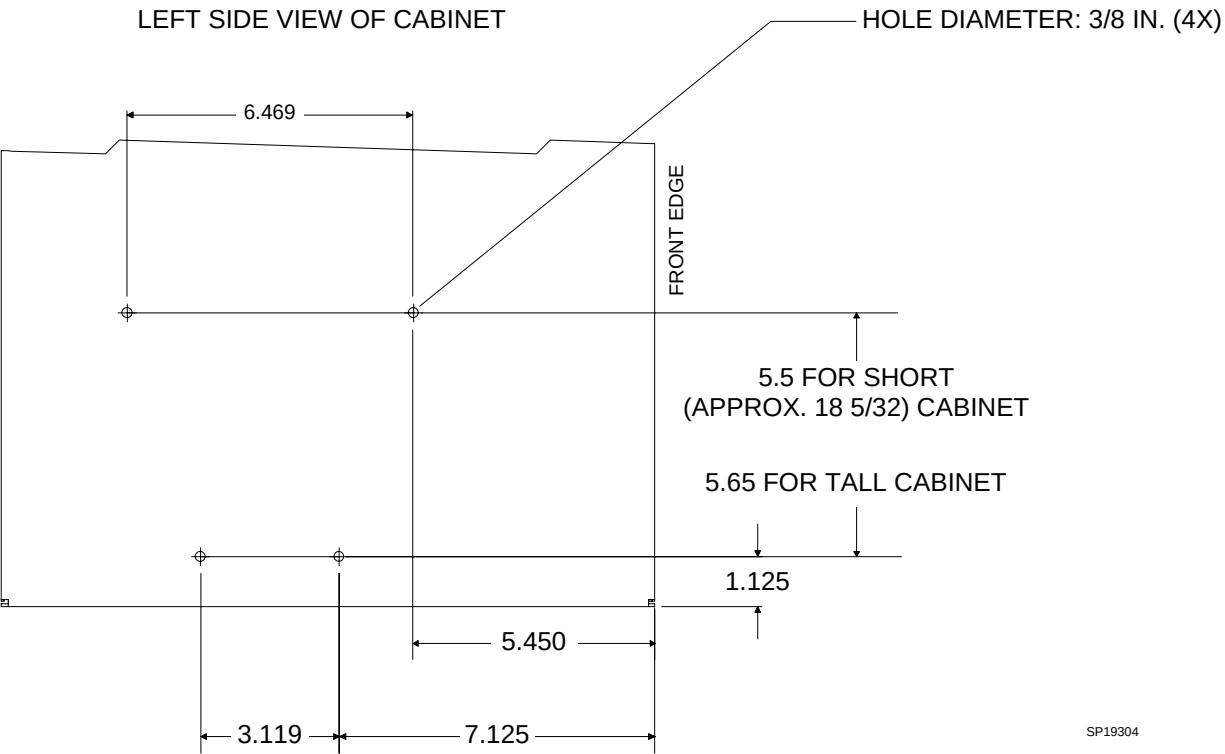

FIGURE 4. Rail Plate Drilling Locations
9. Determine whether your machine has a short cabinet or a tall cabinet. This will establish the drilling locations for attaching the rail plate to the cabinet. See Figure 4.
Verify that the hole locations are correct for your cabinet - in accordance with the dimensions given in Figure 4.